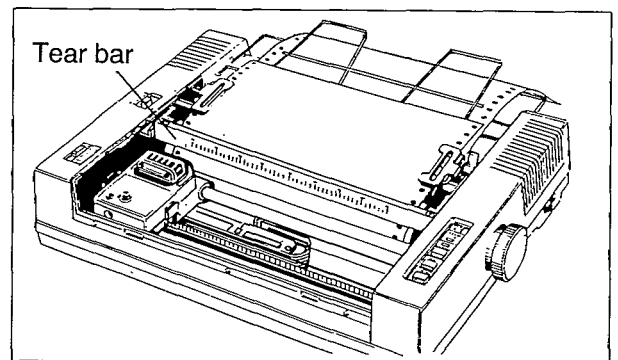

Figure 2.6D Mounting the Paper
- Position the tractors as required to align the paper sprocket holes with the tractor pins and close the tractor covers. Refer to Figure 2.6D.